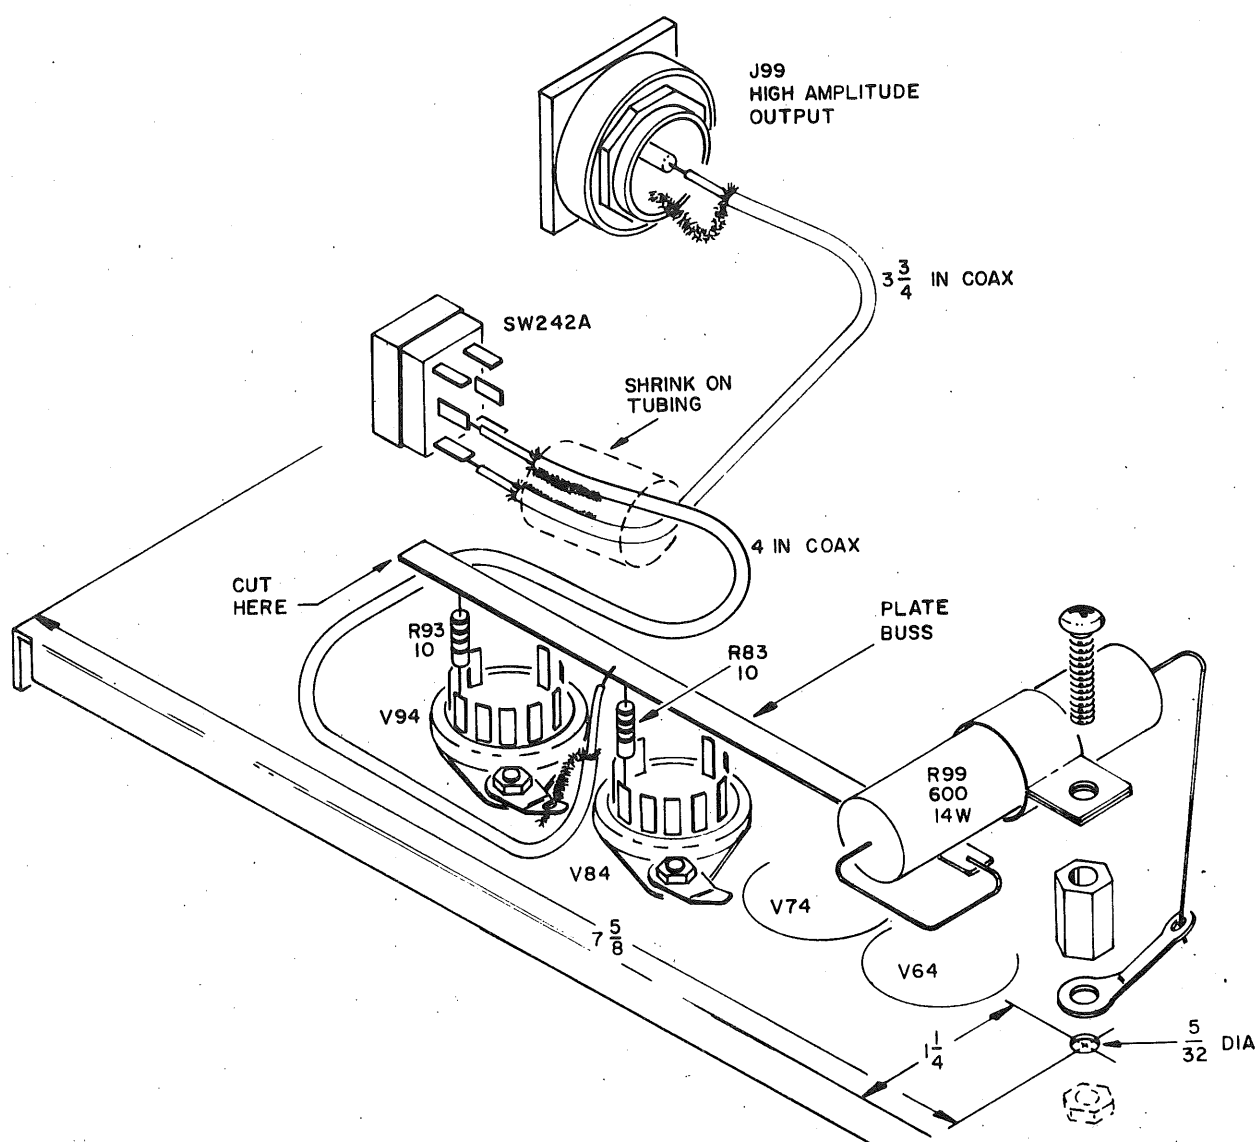

FIG. 2
- g) Make up coax leads with ground leads on each end to 1/58 in. See Fig. 2.